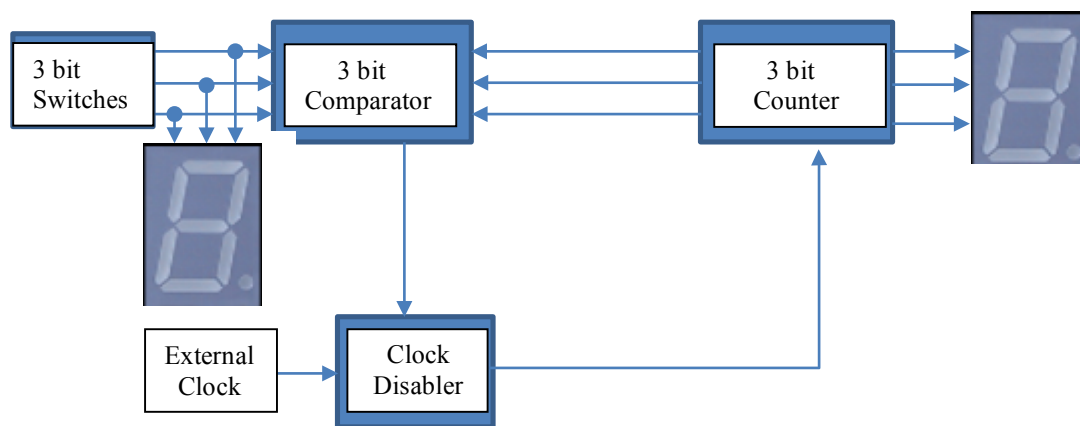

Figure 7. A block diagram of a complete system
1. Add more components with different functions (features) to the existing circuit in Figure 7 using components that you have learnt in this course (especially components discussed in Chapter 6). You can have a look at a real photocopy machine to get ideas or come up with a new function to enhanced the current photocopy machine.